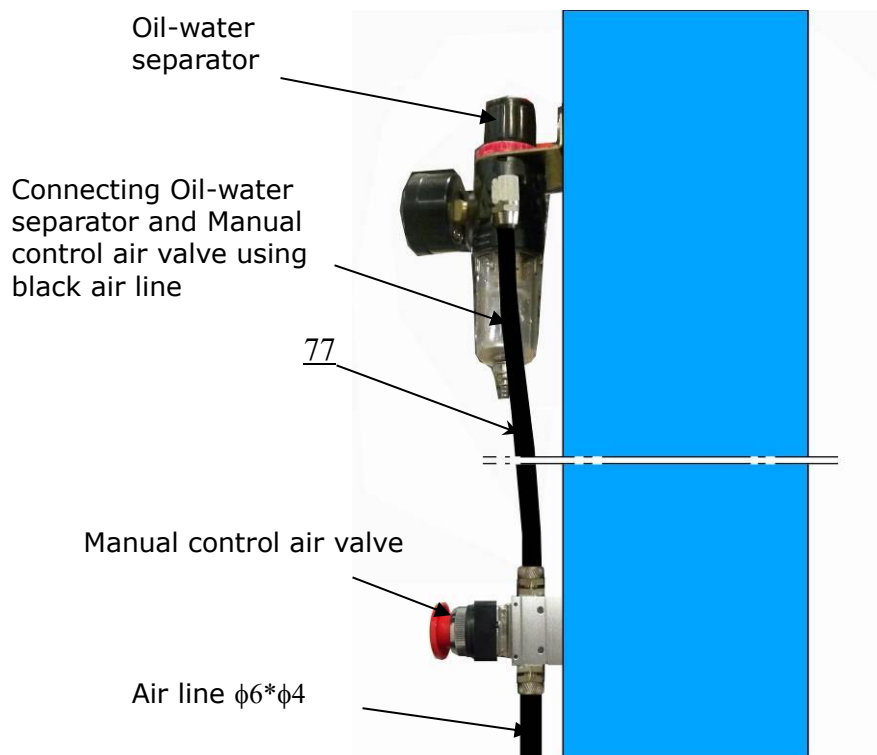

Fig. 29
5. Connecting Oil-water separator and Manual control air valve using air line (See Fig. 29).